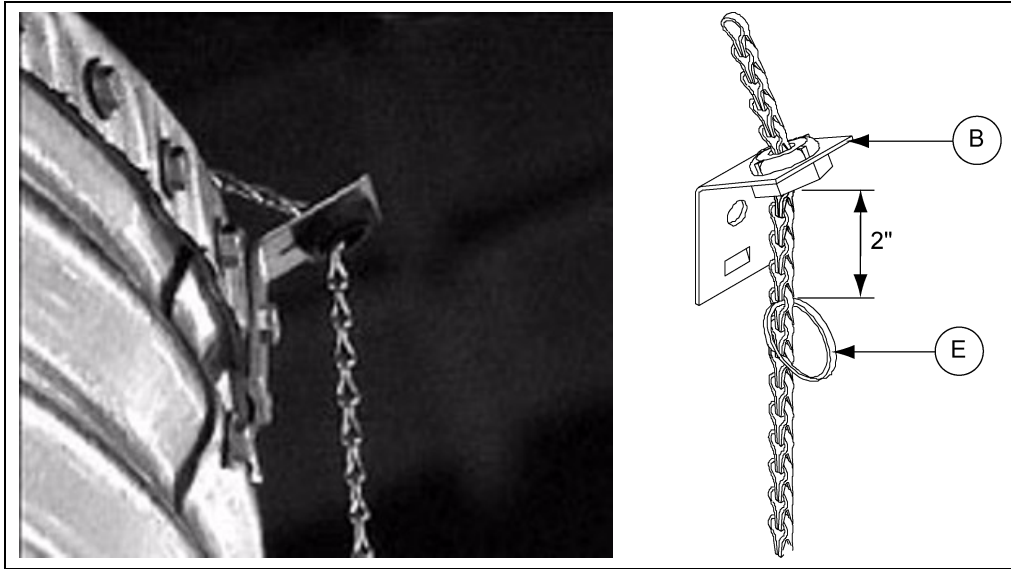
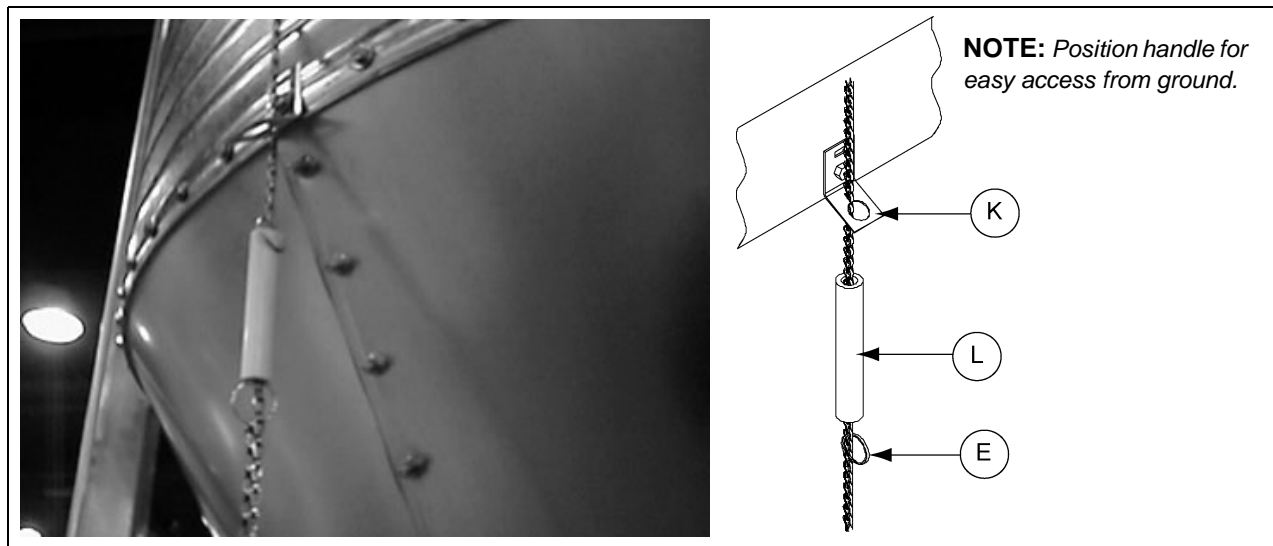

Figure 11I
Figure 11J
3. Thread the existing chain through the hole on the end of the lever arm and fasten it to the provided key ring. (See Figure 11B on Page 58.) Ensure that the ground control chain is freely looped through the roof eave bracket and chain holder. After removing the slack in the chain while the lid is fully closed and in latched position, re-position the key ring 2" below the roof eave bracket. (See Figure 11I.) Re-adjust the existing handle and key ring so the handle is positioned for easy access from ground. (See Figure 11J.) Check to make sure that the key rings allow the cap to fully close, but will not allow the chain enough slack on top of the cap to become wrapped around the lever arm in a high wind condition.